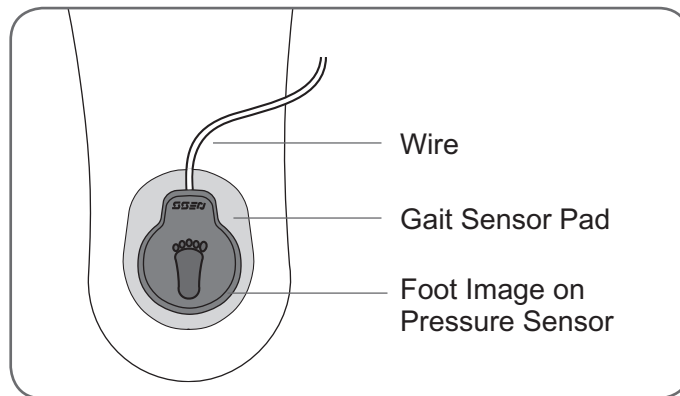

Figure 7-8: Positioning the pressure sensor in the heel of the shoe
2. Point the wire of the pressure sensor toward the toe of the shoe. Then press the pressure sensor to the gait sensor pad. See Figure 7-8.